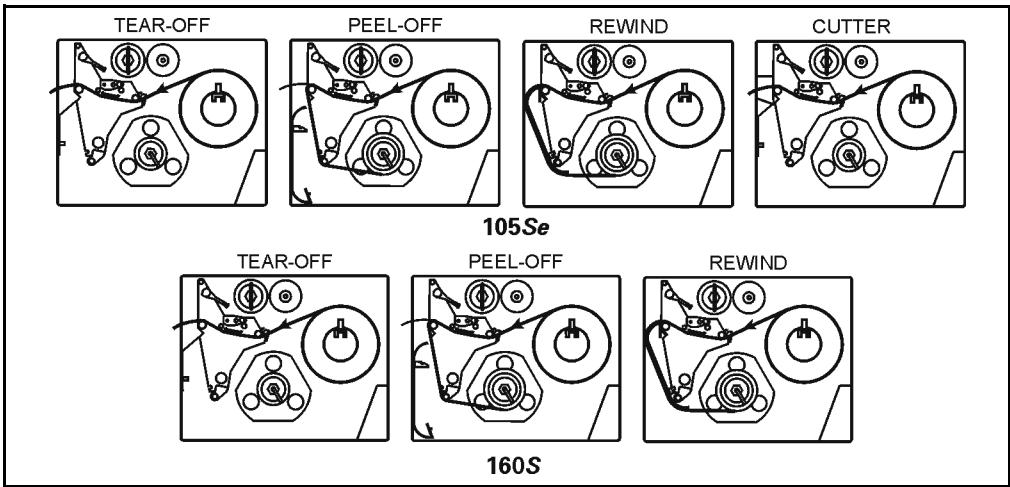

Figure 5
To load media, move the printhead locking lever to the OPEN position. Refer to Figures 5, 6, 7, and 8. When the media is loaded, close the printhead by moving the lever on the upper printhead mechanism to the CLOSED position.
Roll media may contain labels of a fixed length with gaps in between or it may be formed as one continuous length with no gaps (see “Continuous Media” on page 91 for a complete definition). Both types of roll media mount inside the printer in the same manner. To load roll media, refer to Figures 5 and/or 6 and do the following:
6. Route the media as shown in Figures 5 and 6 and wind it 1-2 times around a 3" core.
2. Load media as shown in Figures 5 and 6.
Follow the instructions described in “Roll Media” on page 15 with the exception of step 6: first route the media through the cutter module (see Figures 5 and 6) and then close the printhead assembly by moving the lever located on the upper printhead assembly to the CLOSED position.